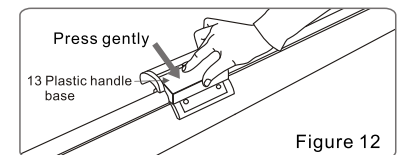

Figure 12
4. Be sure the screen is completely stowed and locked before carrying the product by handle , even if the screen could be locked automatically while the uphold bar were locked in the clip. (Figure 12)